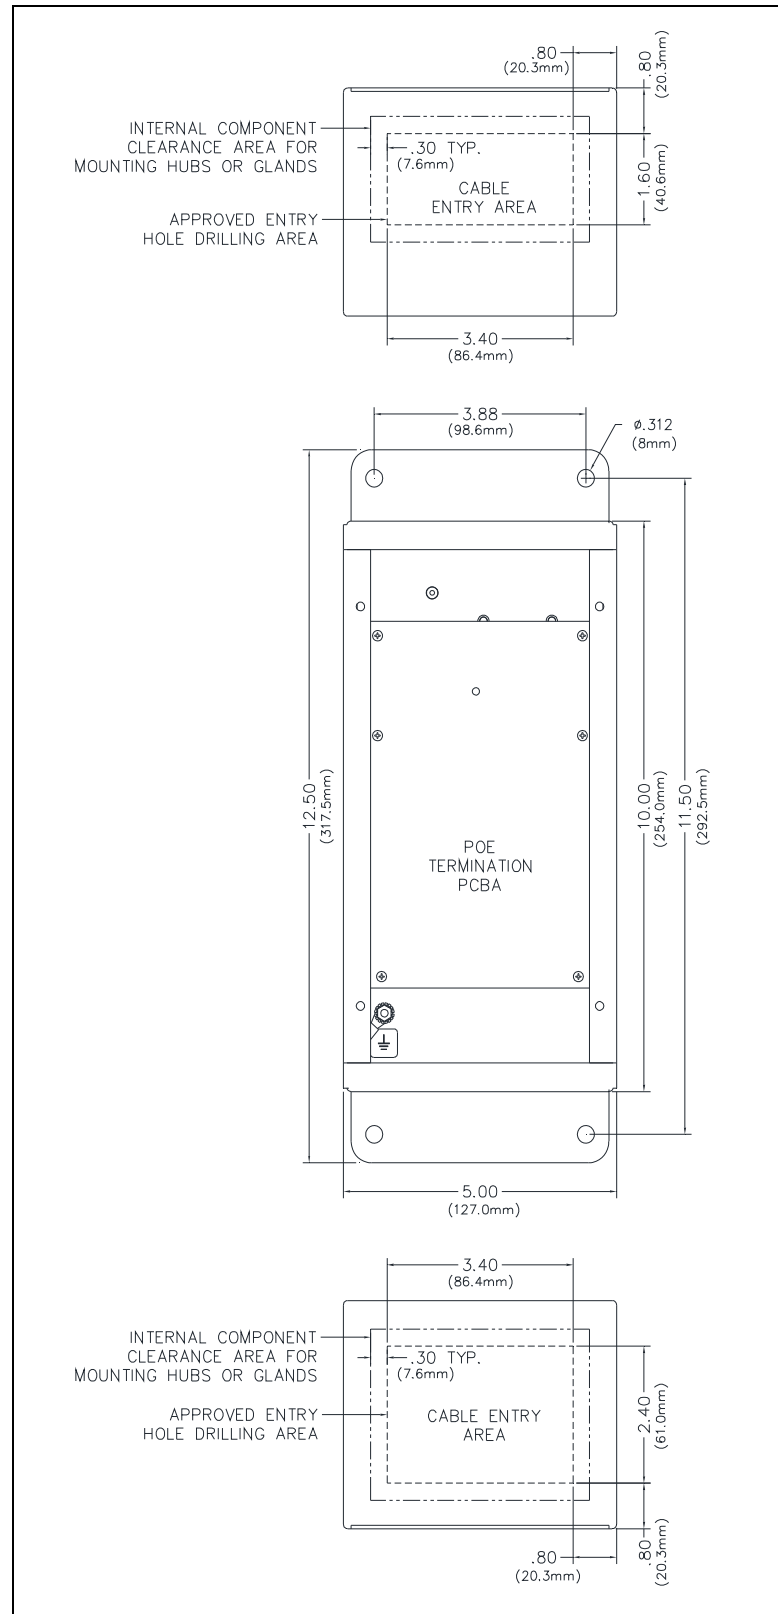

Figure 2. Suggested Wire Entry Locations
1. Mount the enclosure using the four 0.312-inch (8 mm) diameter holes located on the mounting flanges with ¼-inch (M6) hardware (see Figure 2).
3. Drill or punch entry openings in the rear section of the enclosure (see Figure 2).